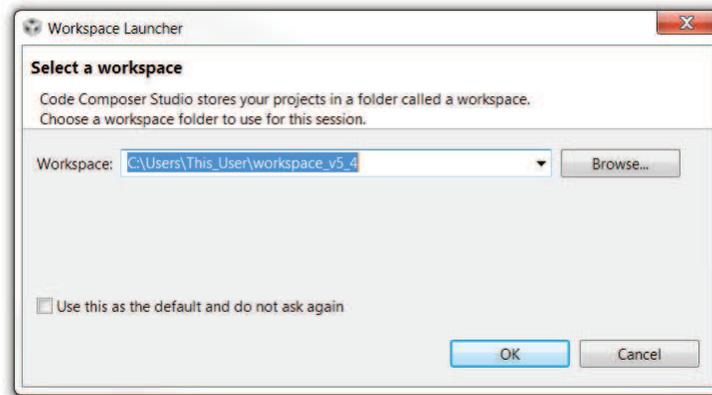

Figure 22. Workspace Launcher
- Step 2. Select the location and name of the workspace. The location and naming convention can be changed based on the user's preference (see Figure 22).